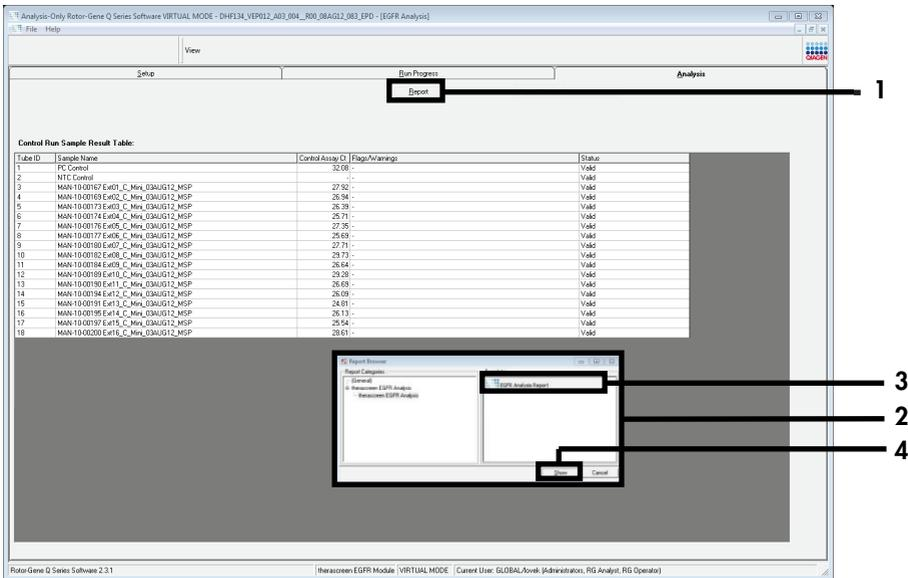

Figure 9. Selecting the “EGFR CE Analysis Report.” 1 = “Report”; 2 = “Report Browser” window; 3 = “EGFR Analysis Report” selection; 4 = “Show.”
18. Click **Report** to produce a report file. The “Report Browser” window opens. Select **EGFR CE Analysis Report** under “Templates”, then click **Show** (Figure 9).